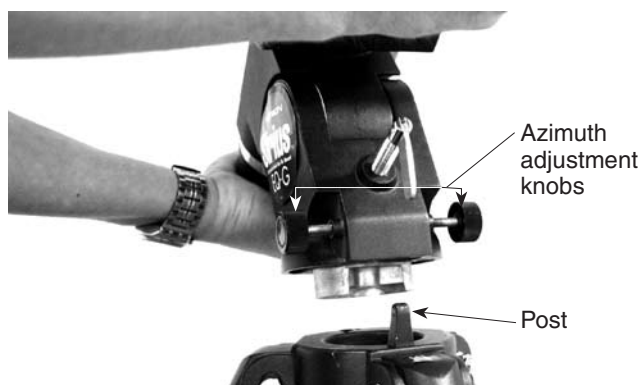
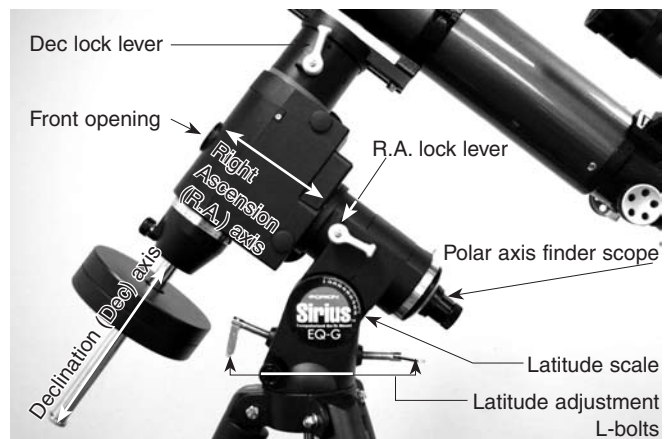

Figure 2. Orient the equatorial head so the post on the tripod lines up with the azimuth adjustment knobs on the equatorial mount.
Figure 5. The Sirius EQ-G mount.
2. Place the base of the equatorial mount onto the tripod head. Orient the equatorial mount so that the post on the tripod head lines up with the azimuth adjustment knobs on the equatorial mount (Figure 2). You may need to loosen
When you look at the night sky, you no doubt have noticed that the stars appear to move slowly from east to west over time. That apparent motion is caused by the Earth's rotation (from west to east). An equatorial mount (Figure 5) is designed to compensate for that motion, allowing you to easily "track" the movement of astronomical objects, thereby keeping them from drifting out of your telescope's field of view while you're observing.
2. There are two latitude adjustment L-bolts (see Figure 5); loosen one while tightening the other. By doing this you will adjust the latitude of the mount. Continue adjusting the mount until the pointer on the latitude scale is set at the latitude of your observing site. If you don’t know your latitude, consult a geographical atlas to find it. For example, if your latitude is 35° North, set the pointer to 35. The latitude setting should not have to be adjusted again unless you move to a different viewing location some distance away.
3. Loosen the Dec. lock lever and rotate the telescope’s optical tube until it is parallel with the right ascension axis, as it is in Figure 5.
The Sirius EQ-G mount comes with a polar axis finder scope (Figure 7) housed inside the right ascension axis of the mount. When properly aligned and used, it makes accurate polar alignment quick and easy to do. Unthread the cover at the rear of the mount’s right ascension axis and remove the cap on the front opening of the equatorial mount (Figure 5) to view through the polar axis finder scope.
5. Now use the azimuth adjustment knobs (Figure 2) and the latitude adjustment L-bolts (Figure 5) on the mount to position the star Polaris inside the tiny circle marked “Polaris” on the finder's reticle. You must first loosen the knob underneath the equatorial mount on the center support shaft to